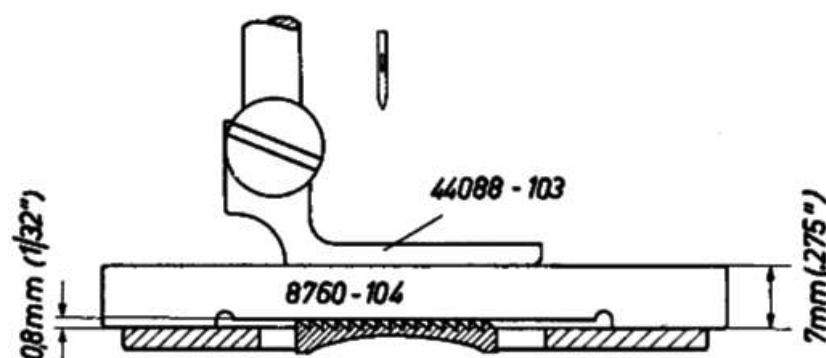

Fig. 37
Loosen set screw (153) on presser bar lifting collar (60022), slightly push up the presser bar to make room for gauge (8760-104) which is to be placed, recess down, between gauge foot and needle plate. Now lower the presser bar until the gauge foot touches the surface of the gauge just lightly (Fig. 37). This done, retighten the set screw in the presser bar lifting collar and lower presser bar lifter (60024), thus clamping the gauge in this position. Tilt the machine back and turn the balance wheel to bring the feed dog to its highest position. When in this position, check whether its teeth touch the underside of the recessed portion of the gauge. If adjustment should be necessary, loosen binding screw (67) and slightly raise or lower feed lifting shaft crank (6094). Return the machine to its upright position, raise the presser bar, and remove the gauge.